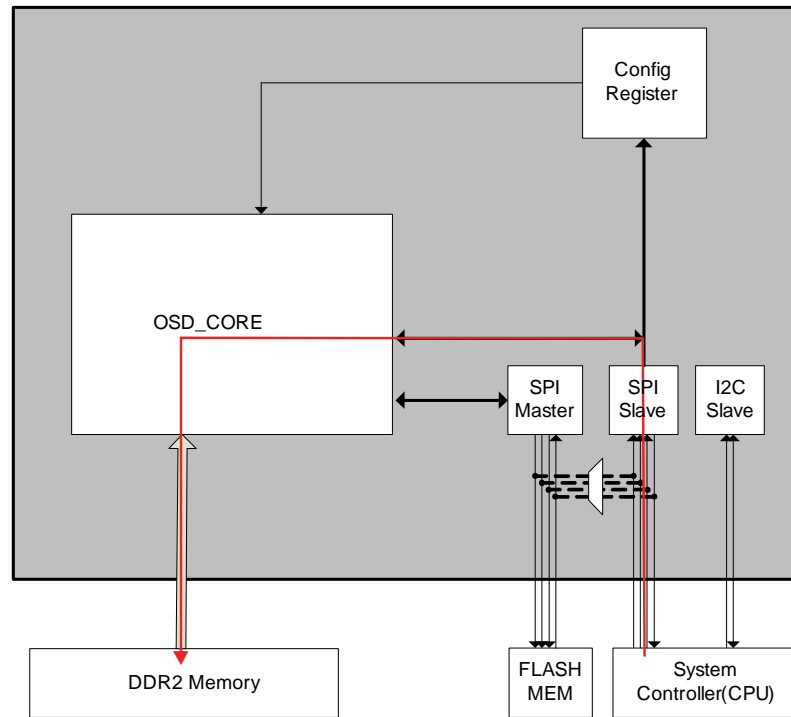

Figure 87: MCU as SPI Master Sending OSD Data Through ADV8005 SPI Slave Interface
- The system MCU (SPI master) can write OSD data into DDR2 memory using the ADV8005 SPI slave interface (serial port 1), as shown in Figure 87.